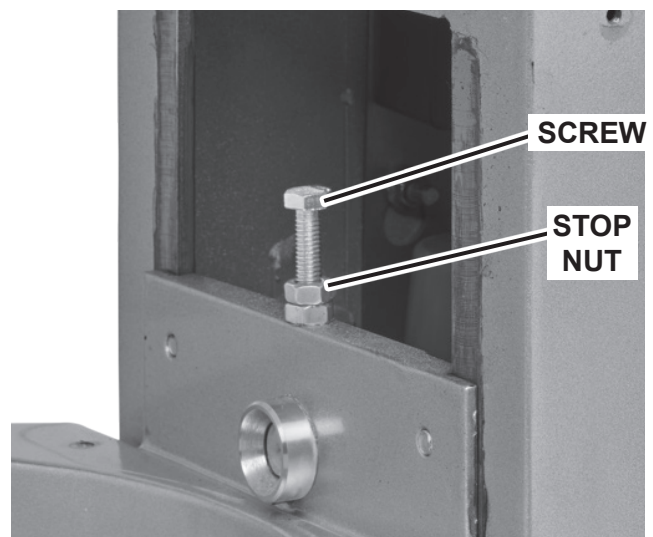

Fig. 13
- Adjust the clearance by loosening the stop nut and moving the screw (Fig. 13) clockwise to increase the clearance or counterclockwise to decrease the clearance.